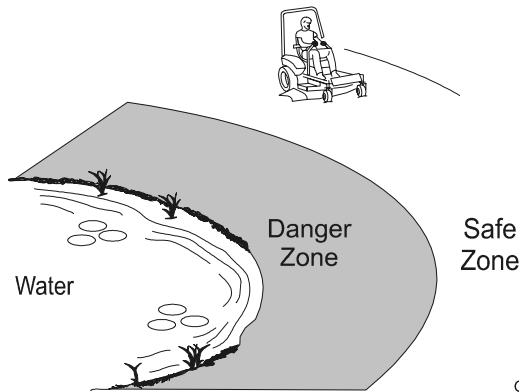

Figure 1
- Use a walk behind mower and/or a hand trimmer near drop-offs, ditches, steep banks or water. This area can be dangerous, see Figure 1.